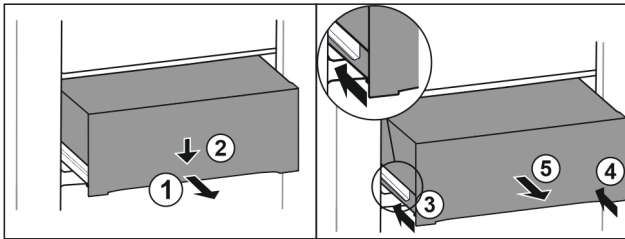

Fig. 102
- ▶ Pull out drawer half-way. Fig. 102 (1)
- ▶ Push the drawer down at the front. Fig. 102 (2)
- ▶ Push the left rail in by about 2 cm. Fig. 102 (3)
- ▶ Push the right rail in by about 2 cm. Fig. 102 (4)
- ▶ Remove drawer to the front. Fig. 102 (5)